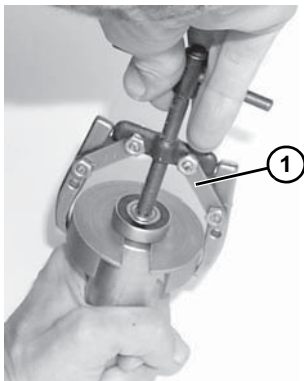

Figure 13
- Using puller part #807-1716 (**Figure 13, item 1**), remove and discard bearing.